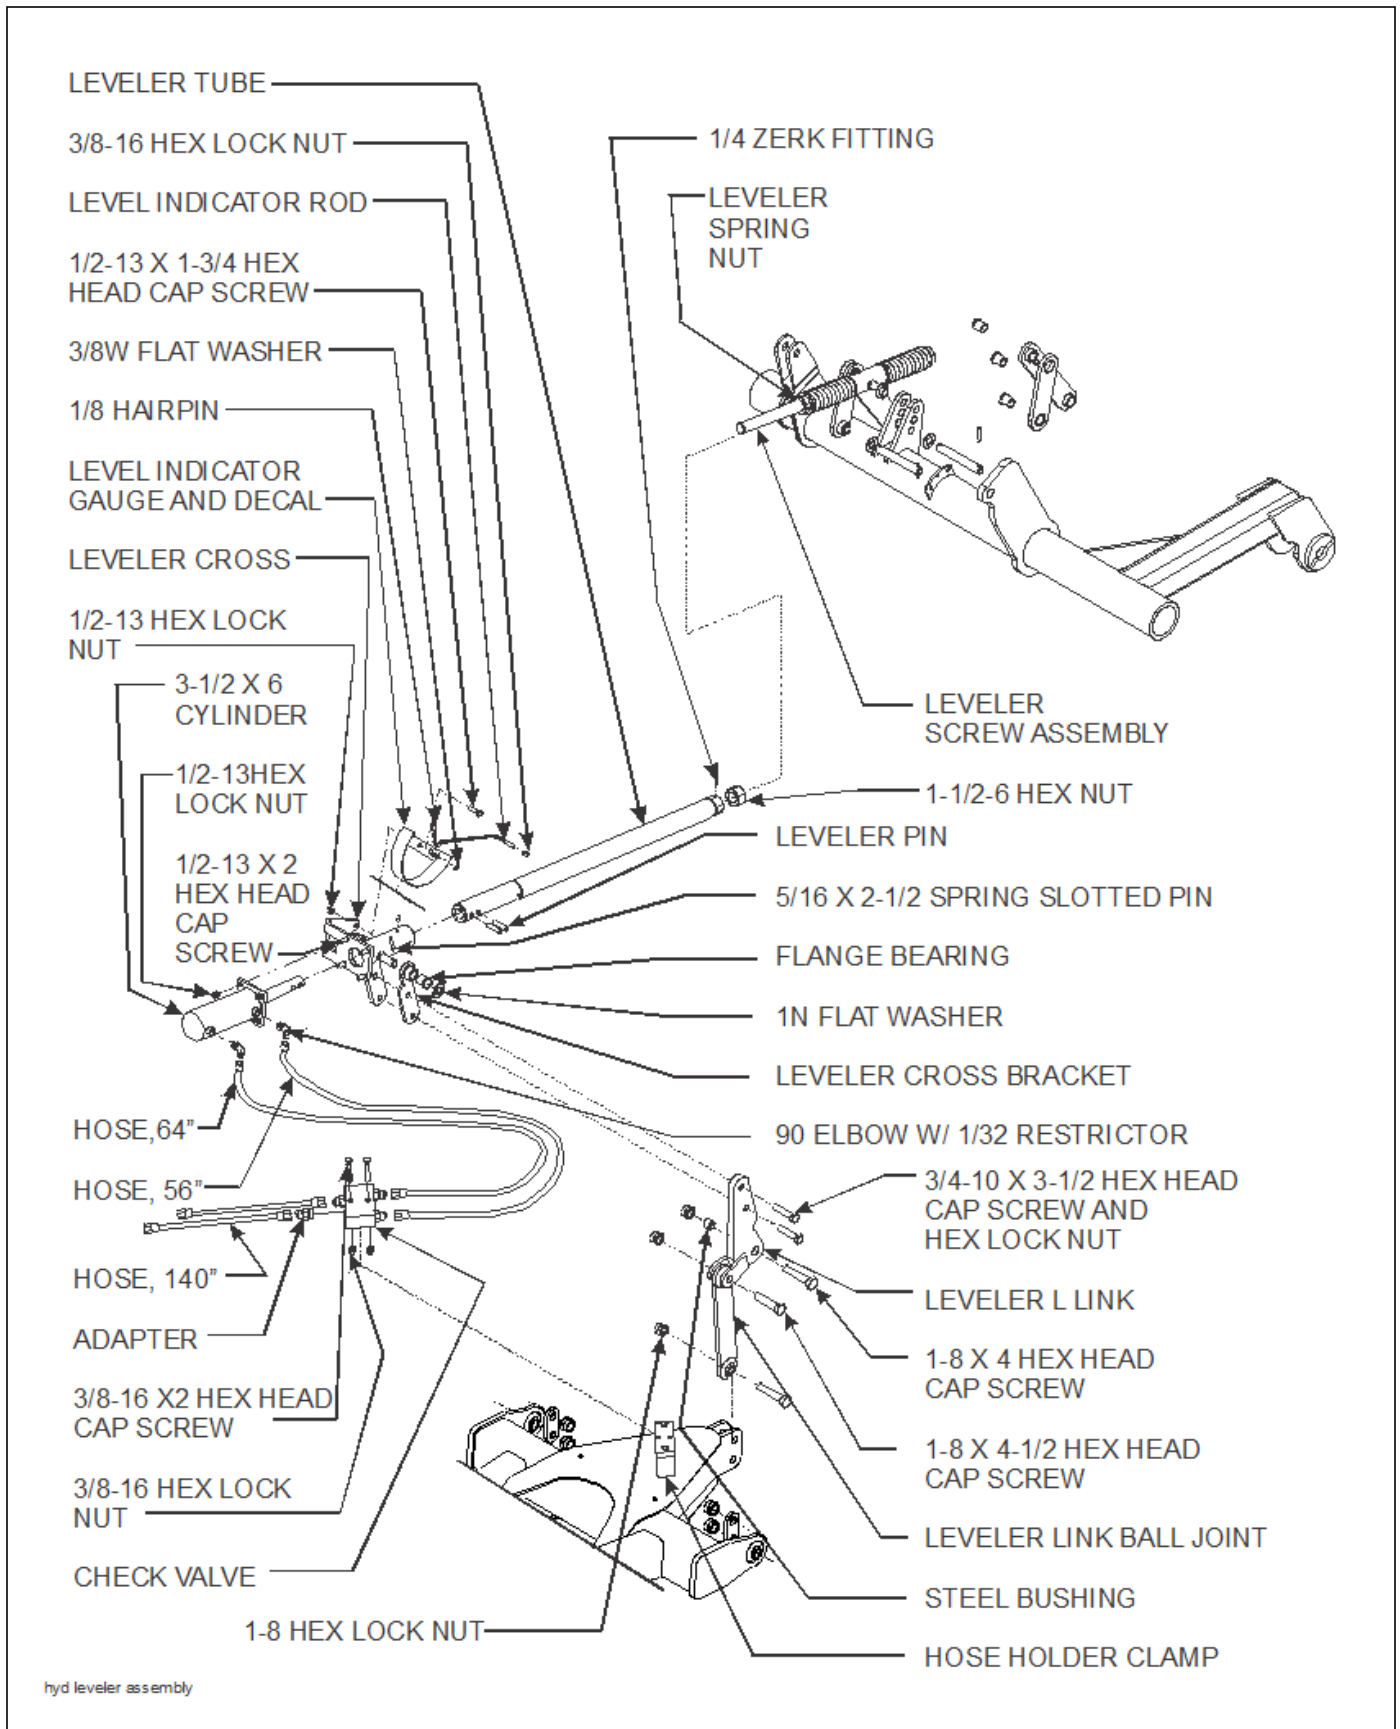

Figure 3-5: Hydraulic Leveler Installation
1. Thread a 1-1/2-6 hex nut onto the leveler screw assembly (**See Figure 3-5.**) Initially leave approximately 7" of threads visible between the 1-1/2-6 hex nut and the leveler spring nut. Further adjustment may be required.
13. Install adapters into each port of check valve (**See Figure 3-5.**)
14. Install check valve to hose clamp holder on hitch using 3/8-16 x 2 hex head cap screws and hex lock nuts. Note that ports C1/C2 go to the 3-1/2 x 6 cylinder and ports V1/V2 go to the tractor (**See Figure 3-5.**)